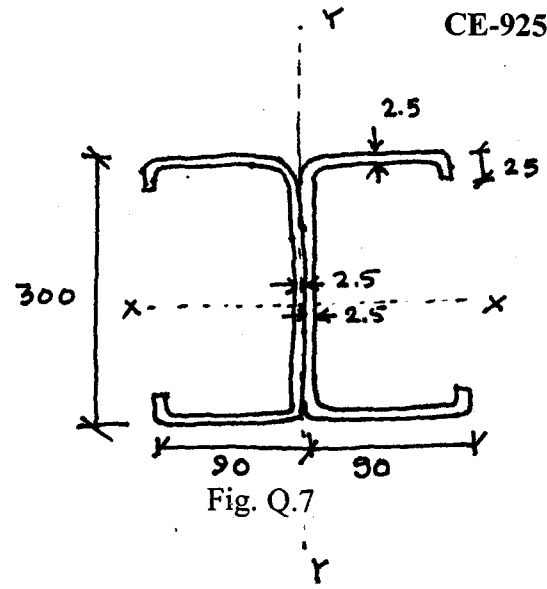

Fig. Q.7
7. Find the allowable load for a column as shown in Fig. Q. 7. The effective length of the column is 6 m. Take  $\sigma_y = 355 \text{ MPa}$ ,  $E = 2.05 \times 10^5 \text{ MPa}$ ,  $I_{yy, \text{gross}} = 420 \text{ cm}^4$ ,  $A_{\text{gross}} = 2600 \text{ mm}^2$ ,  $r_{yy, \text{gross}} = 40.1 \text{ mm}$ ,